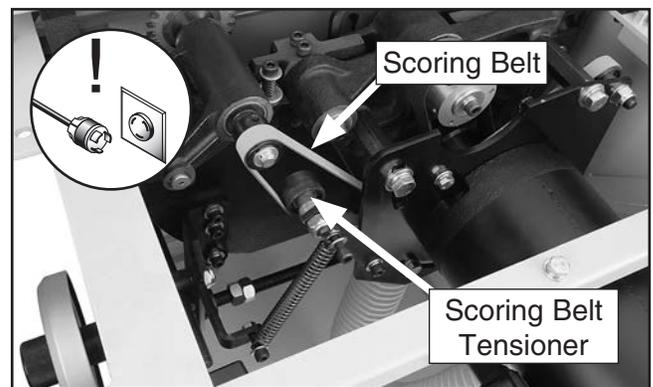

Figure 107. Replacing the scoring motor belt.
4. Pull the tensioner away from the scoring belt (**Figure 107**) to relieve belt tension and remove the scoring belt from the pulleys.